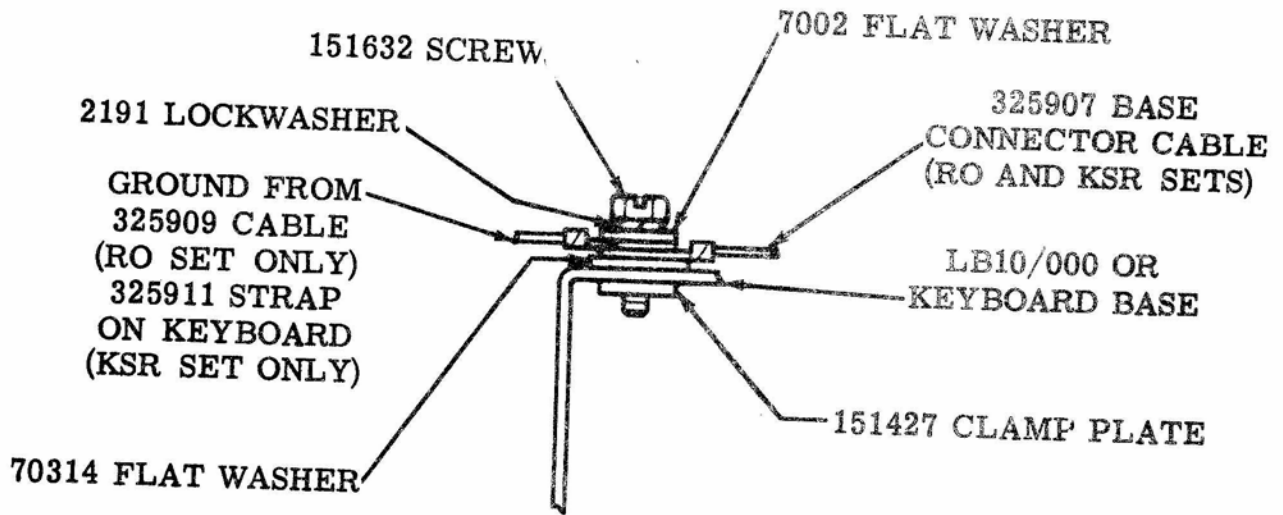

Figure 6 - Cable Assembly Mounting
- 3.42 Install the 154206 power cable assembly and 325911 strap on the keyboard by soldering the wire leads to the 152467 connector in accordance with 8327WD; apply a 155753 insulating sleeve over each soldered terminal (3 places). Connect the cable to the 151415 motor terminal block (S). Route the three green protective ground wires, one being the 325911 strap and two connected to one terminal from the 325907 base connector cable (Paragraph 3.28), to the 0.406 inch diameter hole located on the left side of the keyboard base. Fasten the wires at the hole by means of a 151632 screw, 2191 lockwasher, 7002 flat washer, the two wire terminals, and a 70314 flat washer above the hole while using a 151427 clamp plate below the hole. Refer to Figure 6.